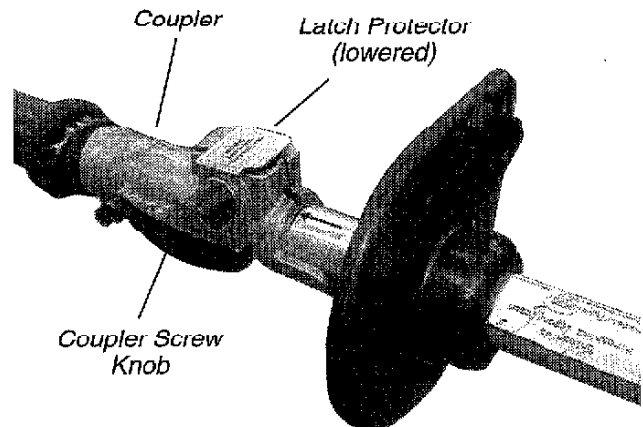

Figure 6
4. When the two tube halves are locked together, press down on the spring loaded latch protector and tighten the coupler screw. See Figure 6.